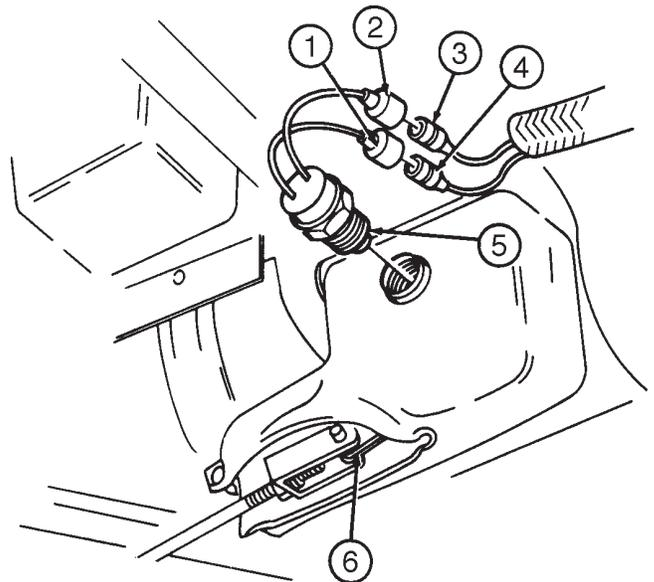

Figure 5-3. Parking Brake Switch.
**G. PARKING BRAKE LIGHT SWITCH TEST (Figure 5-3)**